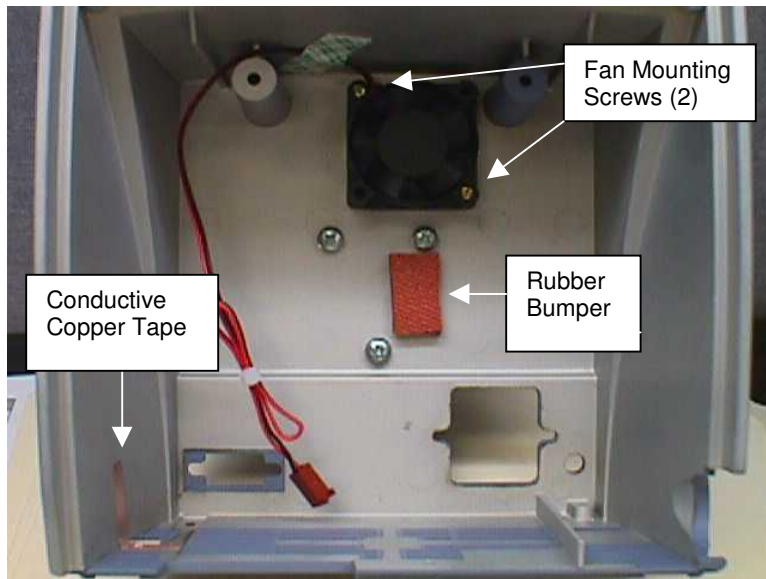

Figure 7-21 Updated System with 2 Fan Mounting screws and Copper Tape
2. Using Loctite 425, install four mounting screws with soft washers. (Only two screws are used in newer versions of the A-2000. See Figure 7-21.) Carefully tighten screws without over-tightening.
**FAN WIRE MUST BE POSITIONED AS SHOWN IN FIG. 7-21. INCORRECT ROUTING OF FAN WIRE MAY RESULT IN A HAZAROUS CONDITION.**
4. Insert the tip of a ball point pen or similar tool, into the slots provided to release the plastic locking tabs allowing the fuse holder to spring out of its locked position. (See Figure 7-21).